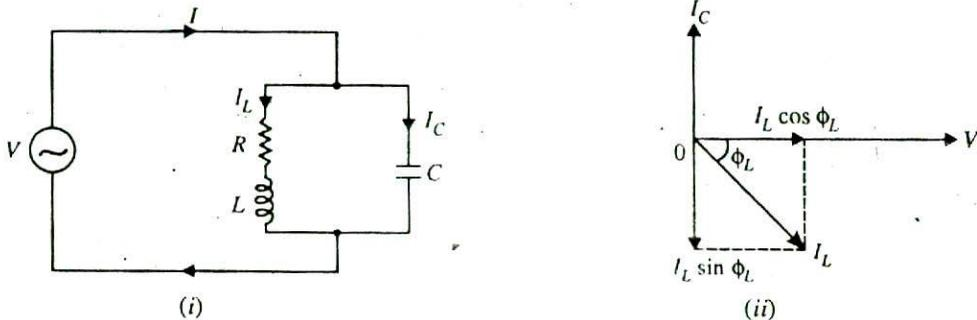

Fig. 17.4
A parallel tuned circuit consists of a capacitor  $C$  and inductor  $L$  in parallel as shown in Fig. 17.4 (i). In practice, some resistance  $R$  is always present with the coil. If an alternating voltage is applied across this parallel circuit, the frequency of oscillations will be that of the applied voltage. However, if the frequency of applied voltage is equal to the natural or resonant frequency of  $LC$  circuit, then *electrical resonance* will occur. Under such conditions, the impedance of the tuned circuit becomes maximum and the line current is minimum. The circuit then draws just enough energy from a.c. supply necessary to overcome the losses in the resistance  $R$ .
**Parallel resonance.** A parallel circuit containing reactive elements ( $L$  and  $C$ ) is \*resonant when the circuit power factor is unity *i.e.* applied voltage and the supply current are in phase. The phasor diagram of the parallel circuit is shown in Fig. 17.4 (ii). The coil current  $I_L$  has two rectangular components *viz* active component  $I_L \cos \phi_L$  and reactive component  $I_L \sin \phi_L$ . This parallel circuit will resonate when the circuit power factor is unity. This is possible only when the net reactive component of the circuit current is zero *i.e.*